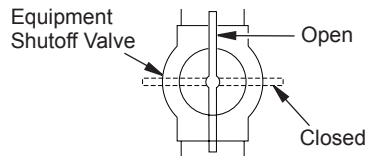

Figure 33 - Equipment Shutoff Valve
1. Close equipment shutoff valve (see Figure 33).
1. Open equipment shutoff valve (see Figure 33, page 23).